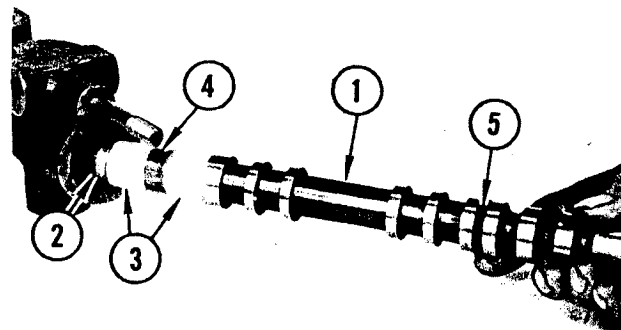

FIGURE 56. CONTROL VALVE PISTON REMOVAL
Refer to Figure 56. Remove retaining ring and wiper ring from end of piston. Remove piston assembly (1) from valve body. Remove locknut (2). Remove the two nylon spacers (3) and brass collar (4). Remove "O" ring (5).